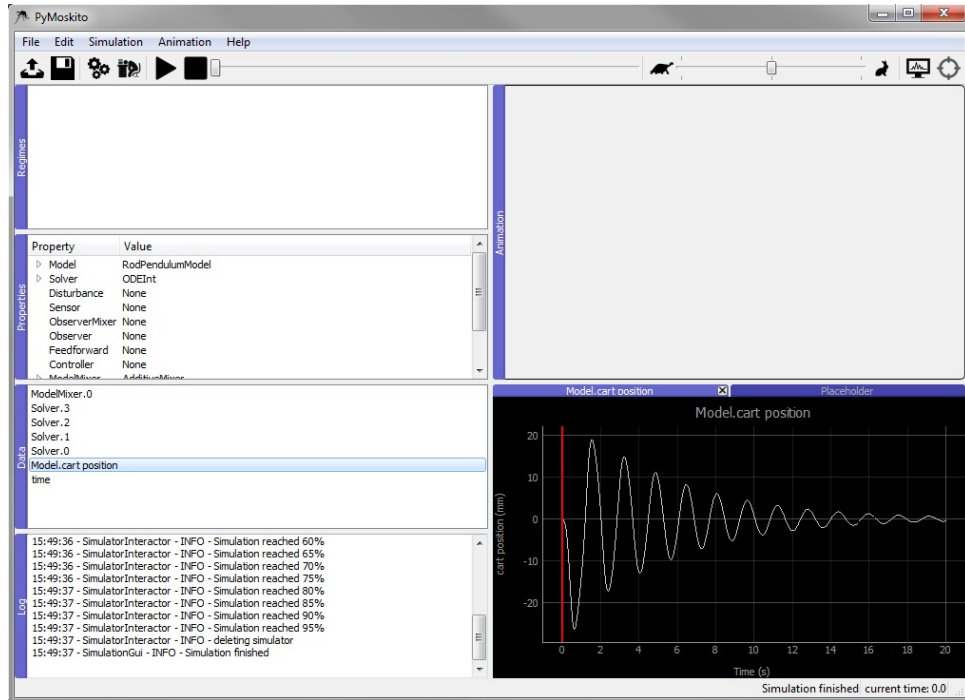

Fig. 3.5: The Interface of PyMoskito after a successful simulation
Click the gearwheel button (2), use the drop-down menu (3) or press F5 to start the simulation. After a successful simulation, all created diagrams will be listed in the Data Window (4). Double click on one to display it as shown in Fig. 3.5.